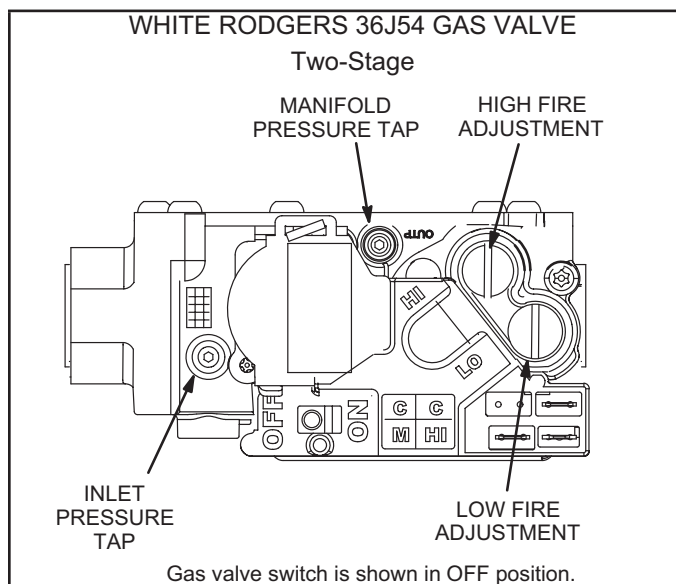

FIGURE 28
Gas Valve Operation (FIGURE 28)
- 5 - Move gas valve switch to **OFF**. See FIGURE 28.
- 6 - Wait five (5) minutes to clear out any gas. If you then smell gas, **STOP!** Immediately call your gas supplier from a neighbor's phone. Follow the gas supplier's instructions. If you do not smell gas, go to the next step.
- 7 - Move gas valve switch to **ON**. See FIGURE 28.